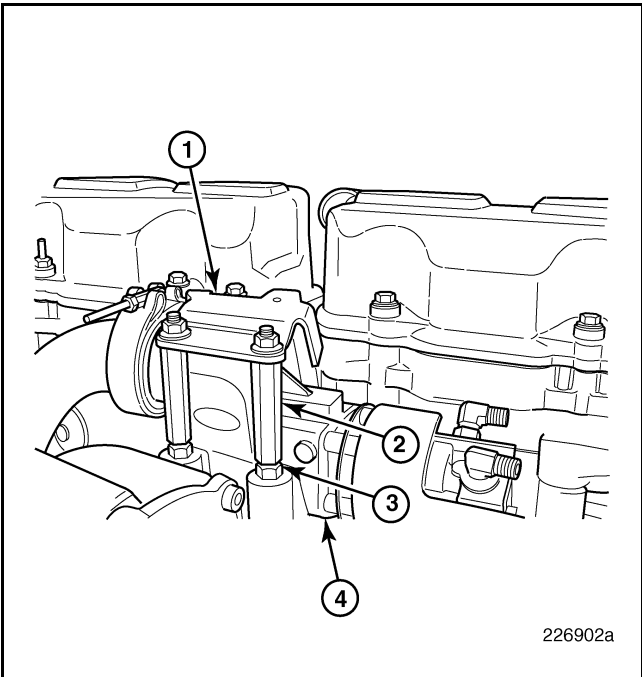

Figure 487 — Clamp Bracket Removal
- With the cool tube removed, loosen and remove the three retaining nuts securing the clamp bracket to the top of the EGR valve (Figure 487). Remove the bracket and washers from the spacer studs.